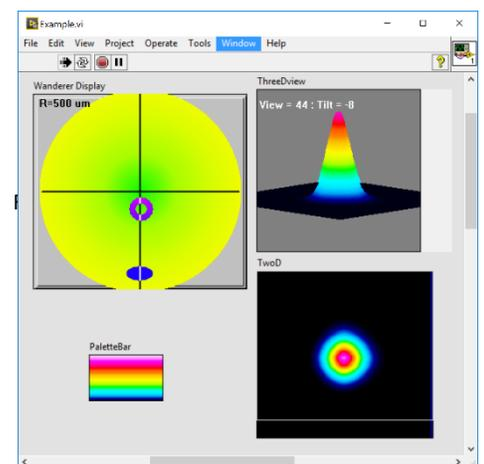

Figure 8: Images available for a scanning slit profiler.
- When using a scanning slit profiler, the wander display (yellow-green, see Figure 8) can be displayed. The wander display shows the position of the beam relative to the calibrated (0,0) position. To display this image, insert a **Button Control** object onto the front panel. Right click the button and select **Button->Properties**. From the list of available button controls select 197. Select the display and enlarge. The wander display is only compatible with DataRay scanning slit profilers, not cameras.